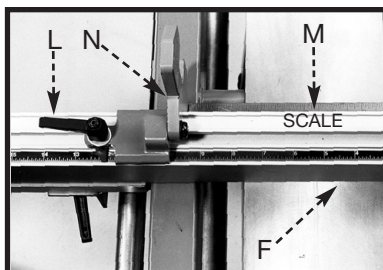

Fig. 46
21. Position fence (F) Fig. 46 on the table to provide a clearance of 1/4" or more between the right end of fence (F) and the blade guard. Place a 12" rule (M) against the saw blade and along the fence. Loosen the lock handle (L) and move the stop (N) against end of rule (M) to place it 12" from the blade.